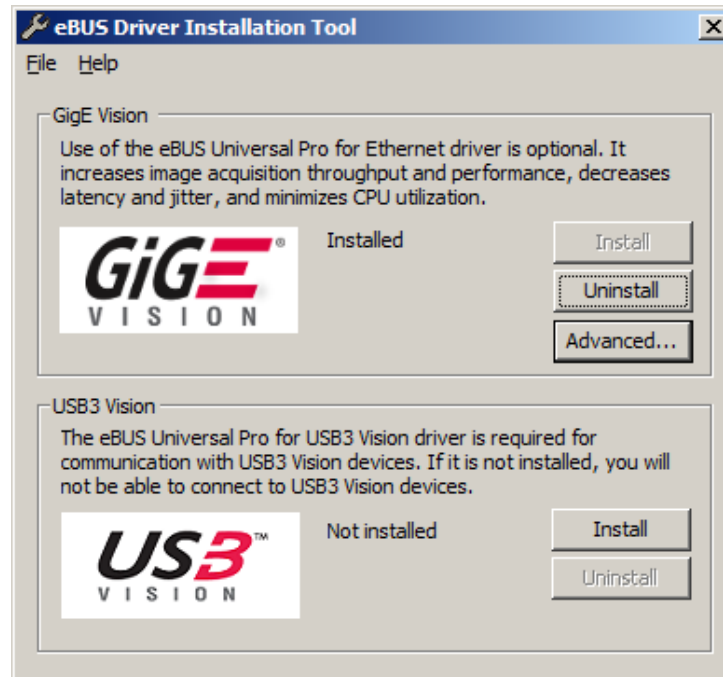

Figure 4 Diagram of Connectors on CL configuration (Left) and USB 3.0 (Right)
- *If you are utilizing a Camera Link Cable:* Connect one end of the Camera Link cable into the port labeled “CL 0”. Connect the other end into the port labeled “0” of the EDT VisionLink F4 Camera Link card, installed in the computer. Connect the second Camera Link cable to the port labeled “CL 1”, and the other end into the port labeled “1” on the Camera Link card. (Port 0 is the default port, while port 1 is used for multi-tap operation.) See Figure 4.